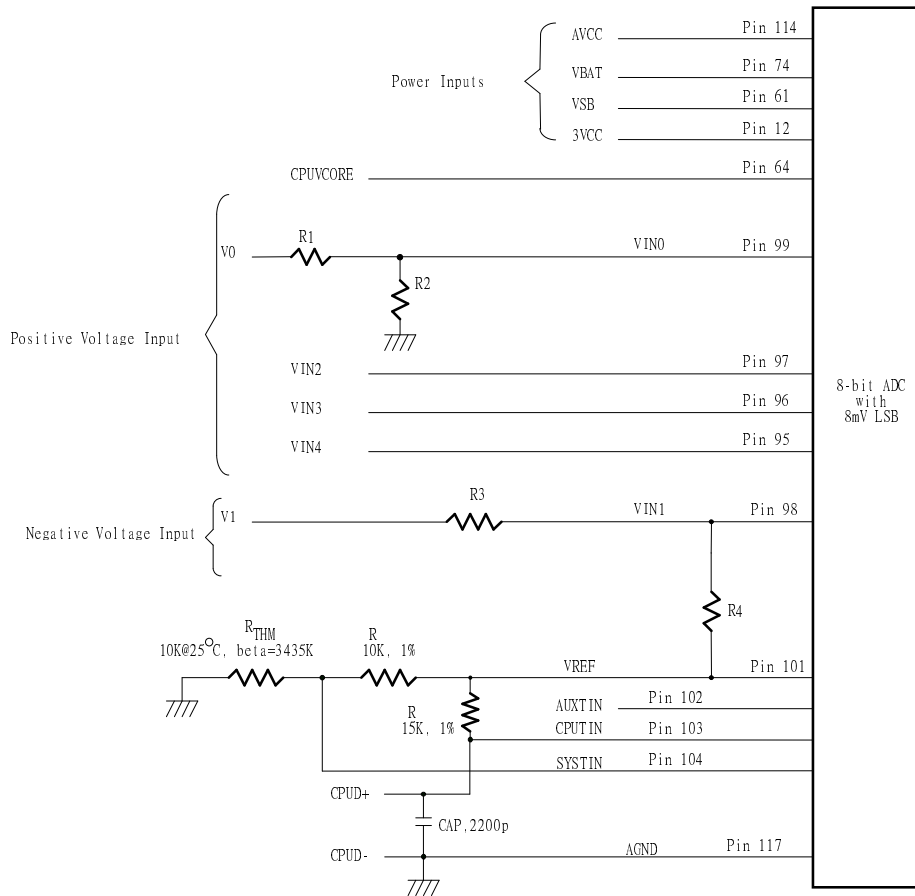

Figure 7.2
The maximum input voltage of the analog pin is 2.048V because the 8-bit ADC has a 8mV LSB. Really, the application of the PC monitoring would most often be connected to power suppliers. The CPU Vcore voltage, VBAT(pin 74), 3VSB(pin 61), 3VCC(pin 12) , AVCC(pin 114) voltage can directly connected to these analog inputs. The +12V voltage inputs should be reduced a factor with external resistors so as to obtain the input range. As Figure 7.2 shows.
The W83627EHF/EHG can connect three thermistors to measure three different environment temperature. The specification of thermistor should be considered to (1) β value is 3435K, (2) resistor value is 10K ohms at 25°C. In the Figure 7.2, the themistor is connected by a serial resistor with 10K Ohms, then connect to VREF (pin 101).